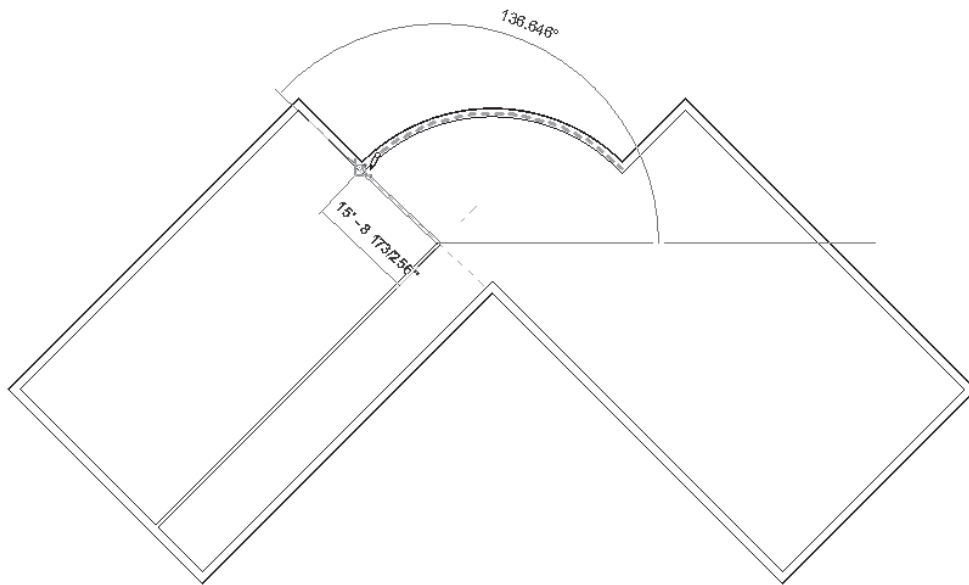

Figure 3-67 *Sketching the second interior wall*
5. Start the next wall from the endpoint of the last wall by clicking on its endpoint. Moving the cursor upward towards the left until the perpendicular object snap appears, as shown in Figure 3-67. Click to specify the point on the external wall to end the interior wall.